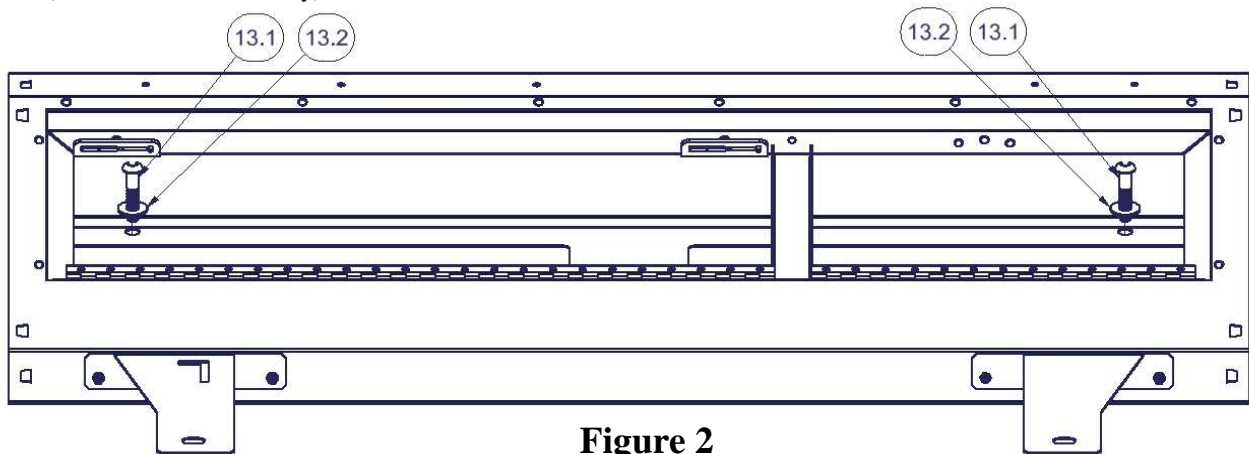

Figure 2
4. Remove the (7) Factory Rubber Bumpers from the top of the plastic storage enclosure. Five (5) are located at the top of the plastic enclosure, and two (2) are found at the rear on either side, near the rear mounting points. **NOTE:** The five (5) on top will be reused on the #343 Lockbox.
5. Remove the (4) Factory Plastic Carpet Anchors (located in the small cubbies on the left and right side of the plastic enclosure) from the carpet by applying upwards pressure, while unscrewing them. **NOTE:** These parts cannot be separated from the plastic enclosure and attempting to do so will damage them.
12. Install, but do not tighten (2) #13.1 Cap Screws, and (2) #13.2 Flat Washers at the front of the #343 Enclosure. **Note:** Shown in Figure 2(Lids removed for clarity).